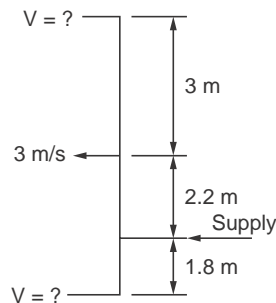

Figure E. 6.4
- E 6.3.** Water flows from a reservoir 240 m above the tip of a nozzle. The velocity at the nozzle outlet is 66 m/s. The flow rate is 0.13 m³/s. Calculate (1) the power of the jet. (2) the loss in head due to friction. **(283.14 kW, 17.98 m)**
- E 6.4.** Water flows in the middle floor tap at 3 m/s. Determine the velocities at the taps in the other two floors shown in Fig. E. 6.4.